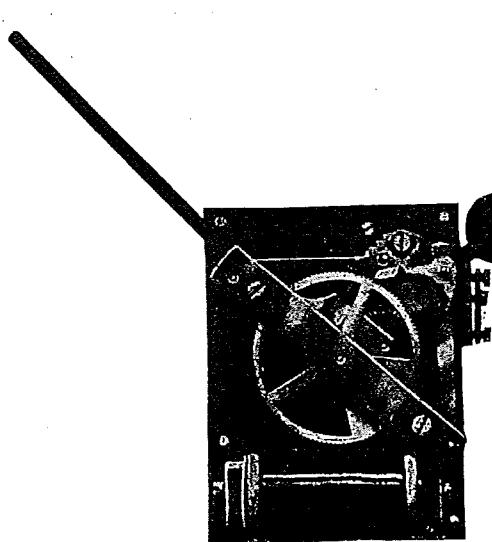

Fig. C9.
(38).—All Impulse Clocks contain a Step-by-Step Mechanism similar to that illustrated at Fig. C9. When this is fixed in a case without exposed Terminals, two studs are provided at the bottom of the Clock front so that individual Clock can be "shorted" if fast, and advanced by means of a Dry Cell if slow. The studs are a precautionary arrangement to avoid the necessity of taking the Clock down in case adjustment of the clock hands is found necessary. To advance all the Clocks together, see paragraph 18.